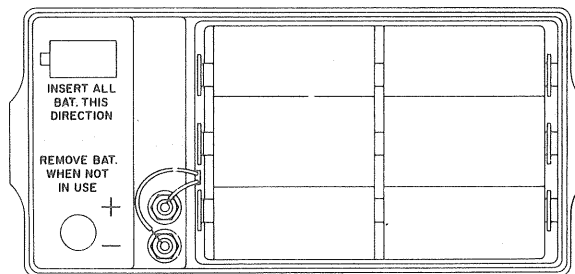

Figure 2. Local or remote control unit, rear view, cover removed.
- (1) Clean the battery compartments and the contact strips. (A pencil eraser can be used to clean the contacts.)
- (2) Check the battery compartments for cracks.
- c. Install six batteries in each unit. Observe the polarity indicated on the battery box (fig 2).
- (1) Insure that all contacts touch the battery terminals.
- (2) Insure that the batteries are held in place under tension.